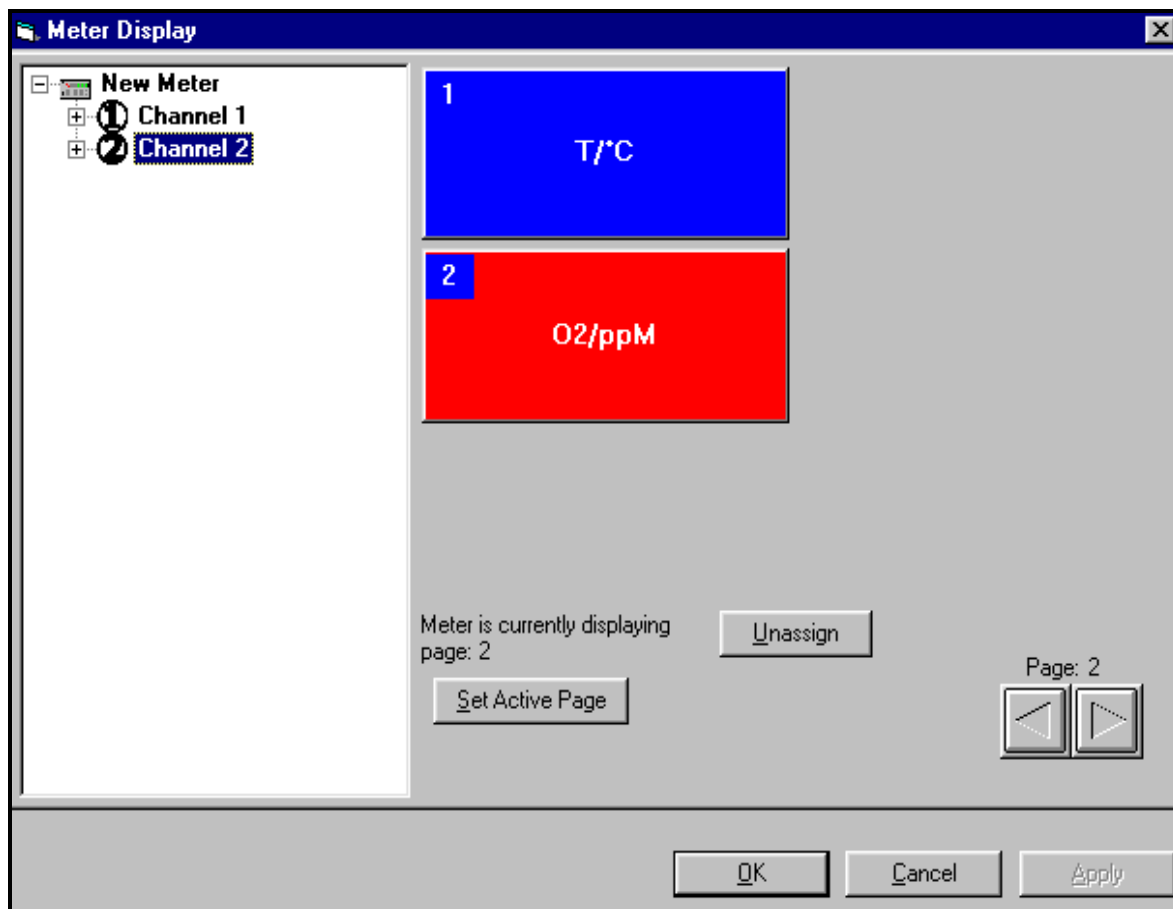
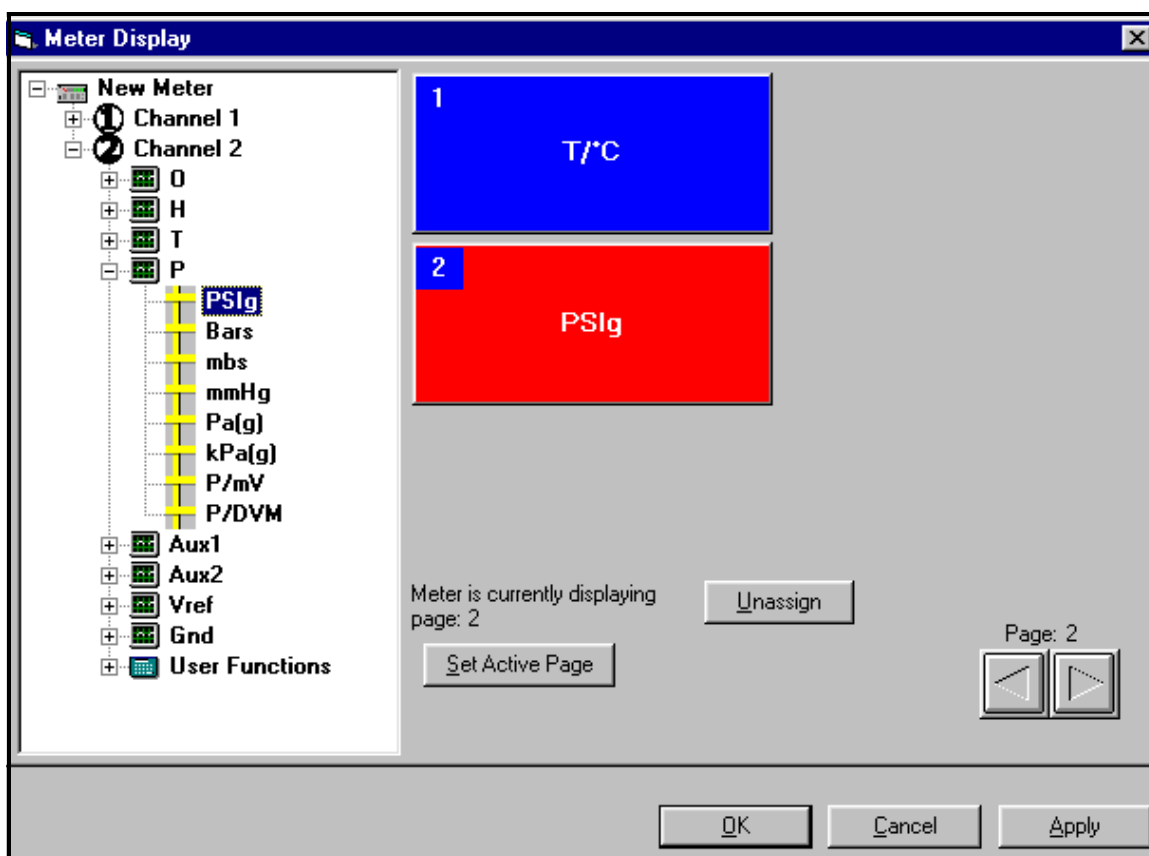

Figure 4-1: The Meter Display Window
Figure 4-2: Matrix Display After Programming
4. Double-clicking on any channel opens the “*Meter Display*” window, shown in Figure 4-1 on page 4-2. Each individual blue window shows the mode and unit measured in the corresponding window on the **MMS-3**, with the assigned channel number in the upper left corner. A line below indicates which page the meter is currently displaying.
Figure 4-2 below shows a typical change on the PC screen from O₂/ppm (shown in Figure 4-1 on page 4-2) to PSIg.